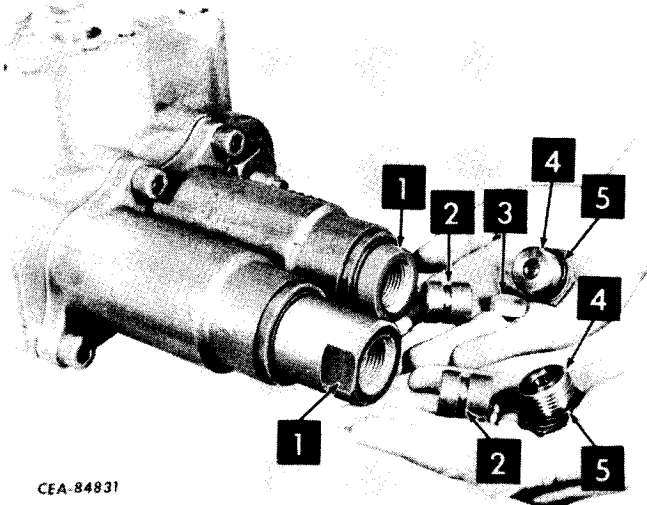

Figure 11-40
Remove plug (4, Fig. 11-40) from sleeve (1). Slide piston (2) and spacer (3) from sleeve. Spacer is found only in bucket plunger. (Spacer nut used on machines equipped with bucket leveler); remove "O"-rings (5) from plugs (4) and discard.
Lubricate piston (2, Fig. 11-40). Insert piston and spacer (3) in bore of detent sleeve. Lubricate new "O"-ring (5) and install on plug (4), using caution to avoid cutting ring on plug